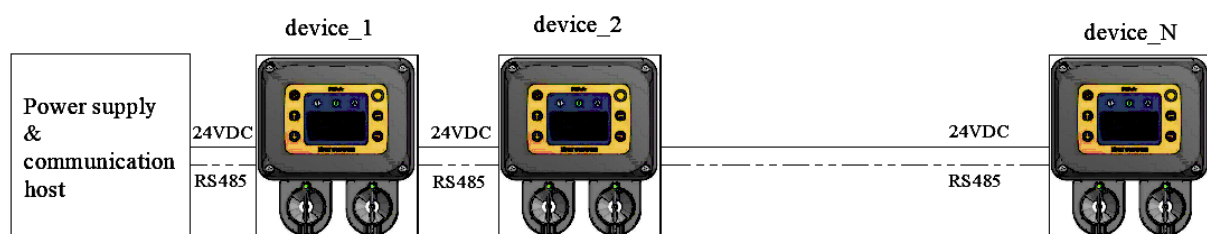

Figure 5 Power or RS-485 Daisy Chain
- Refer to Figure 5 for dimensions and drill two holes in the mounting surface for the remote sensor module. Insert wall plugs into the holes.